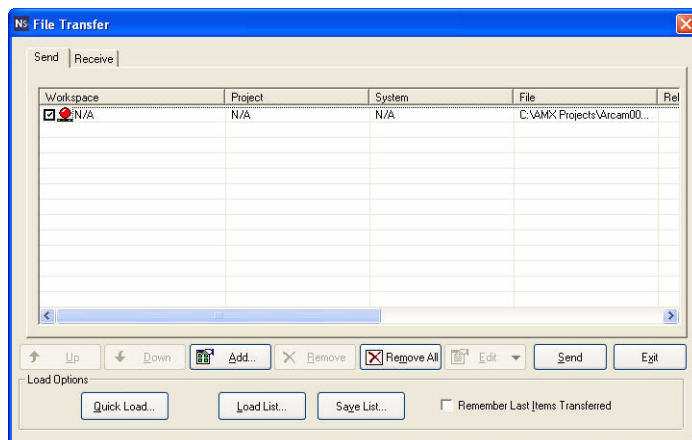

FIG. 67 File Transfer dialog (NetLinx Studio)
8. Click OK to close the Select Files for File Transfer dialog, and return to the File Transfer dialog. The IR file should now appear in the files queue (FIG. 67).